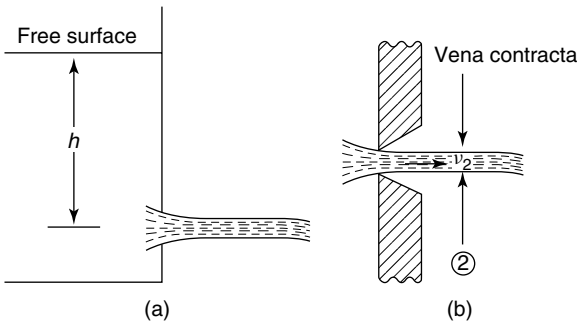

Figure 22.13
Consider the flow of a liquid through a small orifice, as shown in Figures 22.13(a) and (b), where it can be seen that the vena contracta (VC) lies just to the right of the orifice. The cross-sectional area of the fluid is the smallest here and its decrease in area from the orifice is measured by the coefficient of contraction ( $C_c$ ).
3. If in Figure 22.13,  $h = 6$  m,  $C_c = 0.8$ ,  $C_v = 0.7$ , determine the values of  $C_d$  and  $v_2$ . [ $C_d = 0.56$ ,  $v_2 = 6.08$  m/s]
4. If in Figure 22.13,  $h = 10$  m,  $C_c = 0.75$ ,  $C_v = 0.65$ , and the cross-sectional area is  $1.5 \times 10^{-3}$  m2, determine the discharge and the velocity  $v_2$ . [ $C_d = 0.488$ , 9.10 m/s]